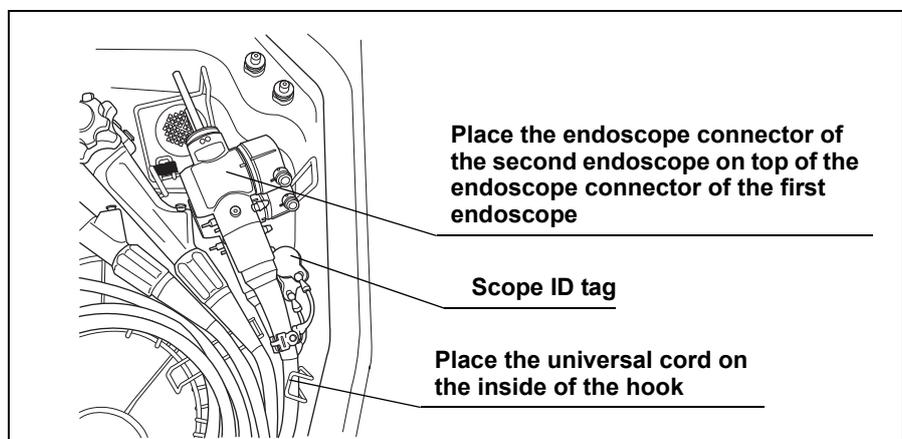

Figure 4.20
- When loading only one conventional endoscope or two conventional endoscopes that are 180 series or older, it is possible to place endoscope connector without tilting. In this case, the endoscope connector of the second endoscope should be placed on top of that of the first endoscope as shown in Figure 4.20. Then, place the scope ID tag of the second endoscope to the position shown in Figure 4.20.